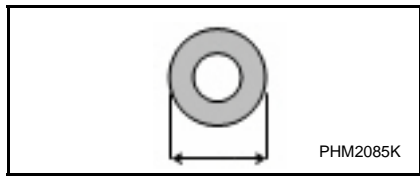

Figure 1
7. Motor Pulley Diameter (Measure the pulley's outside diameter [Refer to *Figure 1*] or provide the pulley's part number): \_\_\_\_\_